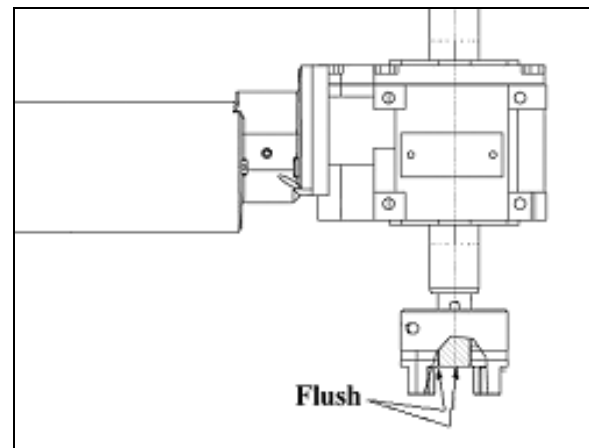

FIGURE 22: CLAMPING HUB POSITION ON GEARBOX SHAFT
6. Install a clamping hub on one of the gearbox shaft (opposite side of gearbox mounting bolts) flush with the shaft extremity (Figure 22) and tighten the clamping screw.
7. Install the second clamping hub on the gearbox shaft. Position the clamping hubs so that they are flush with the shafts extremity (Figure 22).